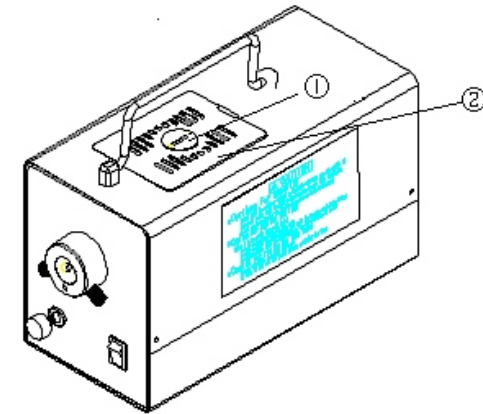
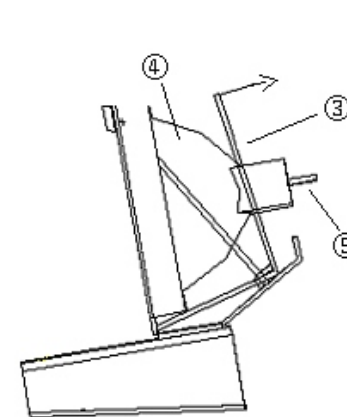

Fig.3.2
Fig.3.3
3.2 Lamp Replacement(Fig.3.2、 Fig.3.3)